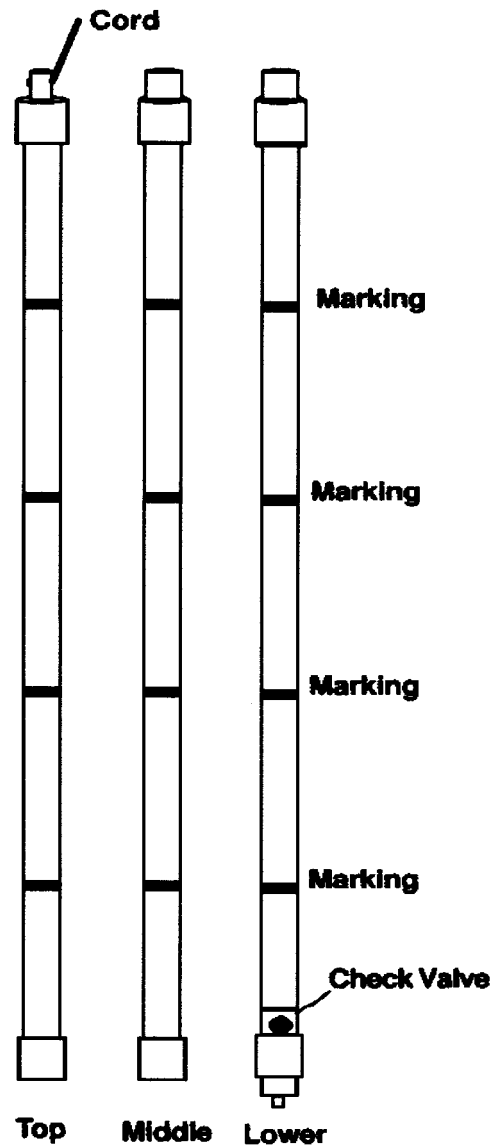

FIG. 8 Liquid Profiler
6.8.1 Description—The liquid profiler consists of a clear poly(vinyl chloride) (PVC) tube, in one or more 1.5 m (5 ft) sections with internal diameters of 2.2 cm (1 in.) or 2.9 cm (1.3 in.), with a valve at the bottom. The internal diameter of the valve is usually 1.6 cm (0.7 in.). The top section is attached to a nylon line for lowering and raising the sampler (see Fig. 8).